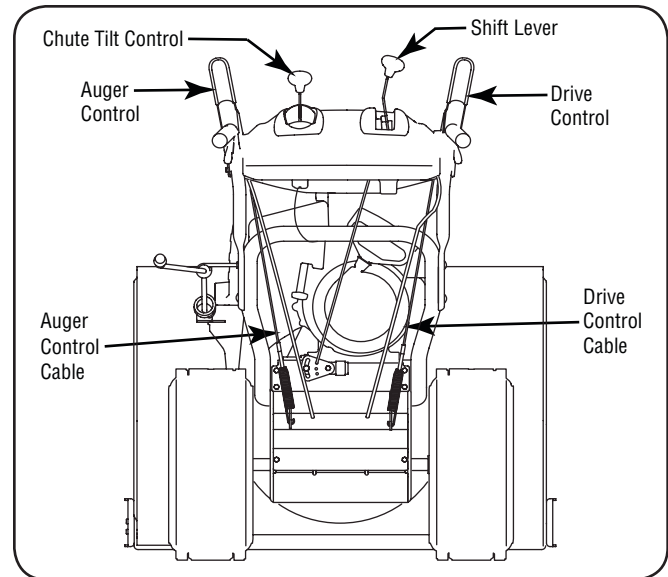

Fig. 3-11
- Look at the lower rear of the snow thrower frame to be sure the spring (found at the end of each cable) is attached to its respective actuator bracket. (Refer to Figures 3-11 and 3-12.)
- With the drive control released (see Figure 3-11), push the snow thrower forward, then pull it back. The machine should move freely.
- When the auger control is released and in the disengaged “up” position (see Figure 3-11), the cable should have very little slack, but should NOT be tight.